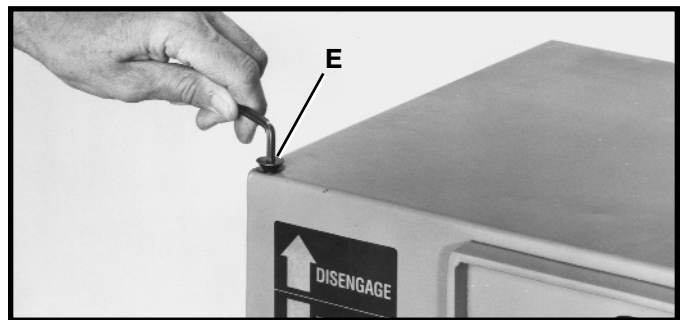
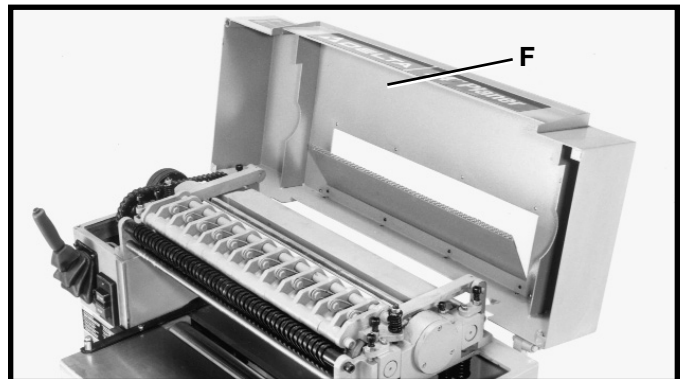

Fig. 5
Fig. 6
With allen wrench supplied, loosen and remove screw (E) Fig. 5, from the left top edge of the machine and raise the top cover (F) Fig. 6 as shown, exposing the chip-breakers, and cutterhead. **NOTE:** The top cover of the machine is hinged to facilitate cleaning and performing maintenance and adjustment procedures.